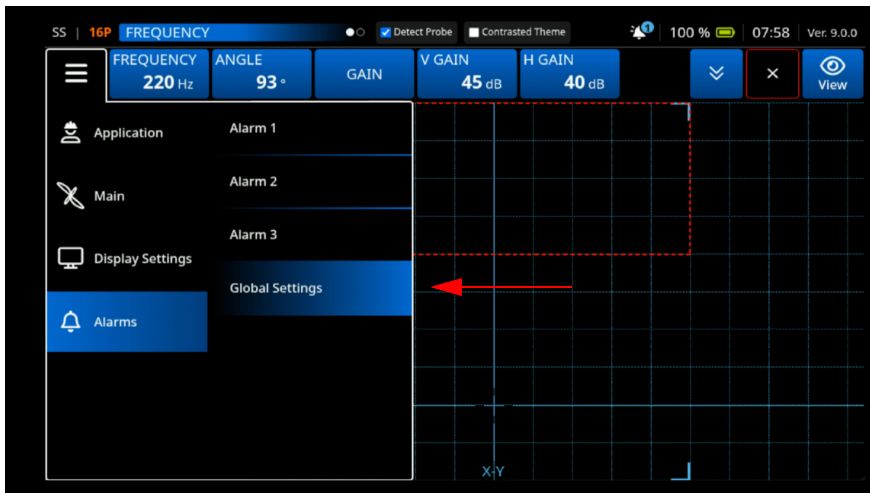

Figure 3-78 Adjust the Alarms Global Settings
2. To adjust the alarm **Dwell Time** or the **Horn**, access the **Alarms Global Settings** menu (See Figure 3-78 on page 100).